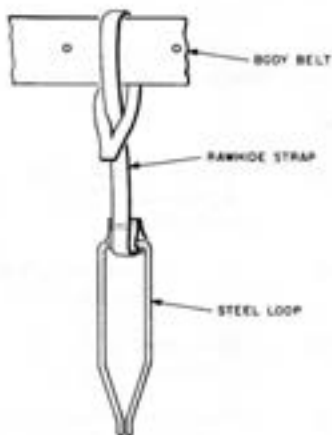

Fig. 1—B Handline Carrier
2.05 When necessary to carry a handline up a pole or ladder, secure one end of the handline to a B handline carrier (Fig. 1) attached to a body belt. If the B handline carrier is not available, double the end of the handline back on itself for a distance of approximately 1 foot and place this loop under the side or back of the body belt so it will be readily released under tension.